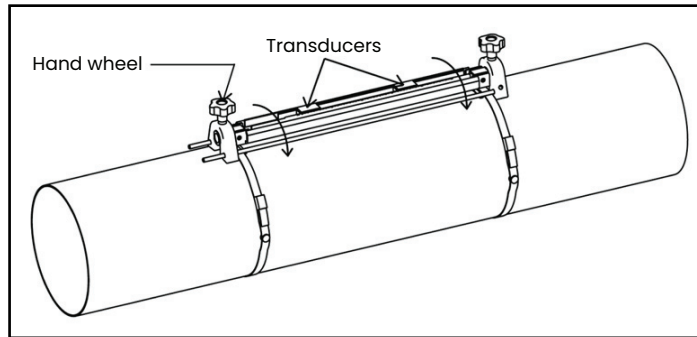

Figure 12: Transducers rotated into view
- a. Loosen both transducers and rotate the fixture so that the transducers are in view (see Figure 12 below).
- a. Rotate the fixture so that the transducers are in view (see *Figure 12* on page 12).